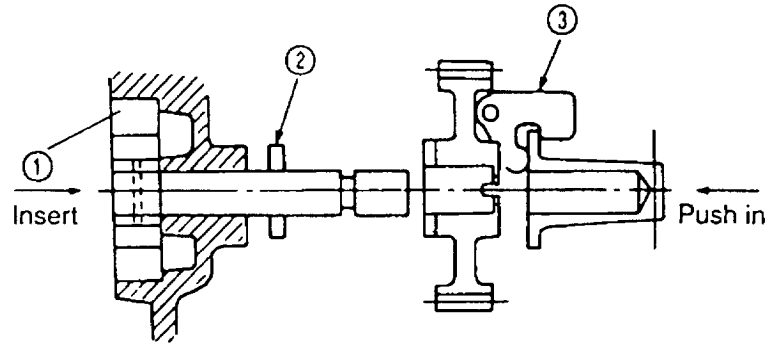

Figure 6-67 Installation of lubricating oil pump
- (a) Insert the lubricating oil pump assembly from the outside of the crankcase cover. Coat the rotor with oil before installing the cover (see Figure 6-67).